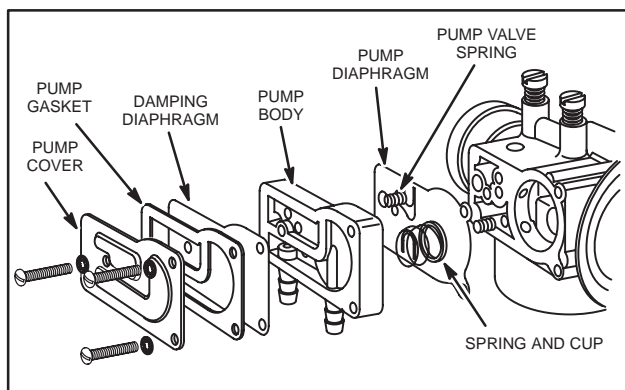

Fig. 291 – ASSEMBLE FUEL PUMP
5. Place damping diaphragm, pump gasket and pump cover on pump body and install three screws, Fig. 291. A fuel pump repair kit is available. See Illustrated Parts List for part number.